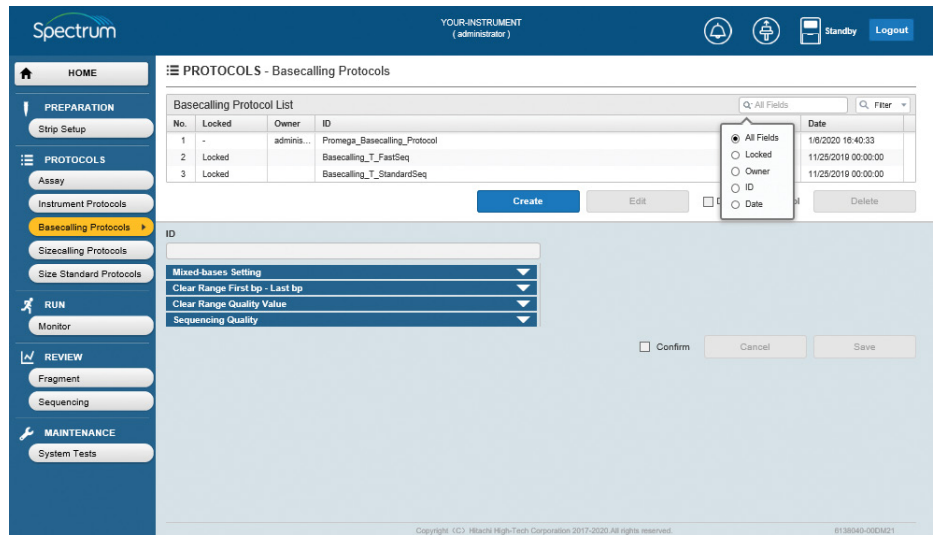

Figure 41. Basecalling Protocol List select search field radio button window.
2. Data in the Basecalling Protocol List may be searched and filtered (i.e., searched for based on specific values and filtered such that only basecalling protocols that meet those criteria are displayed in the Basecalling Protocol List). Select the magnifying glass icon on the Select Search Field box to display a window with radio button selections that allows you to search by All Fields, Locked, Owner, ID or Date (Figure 41).